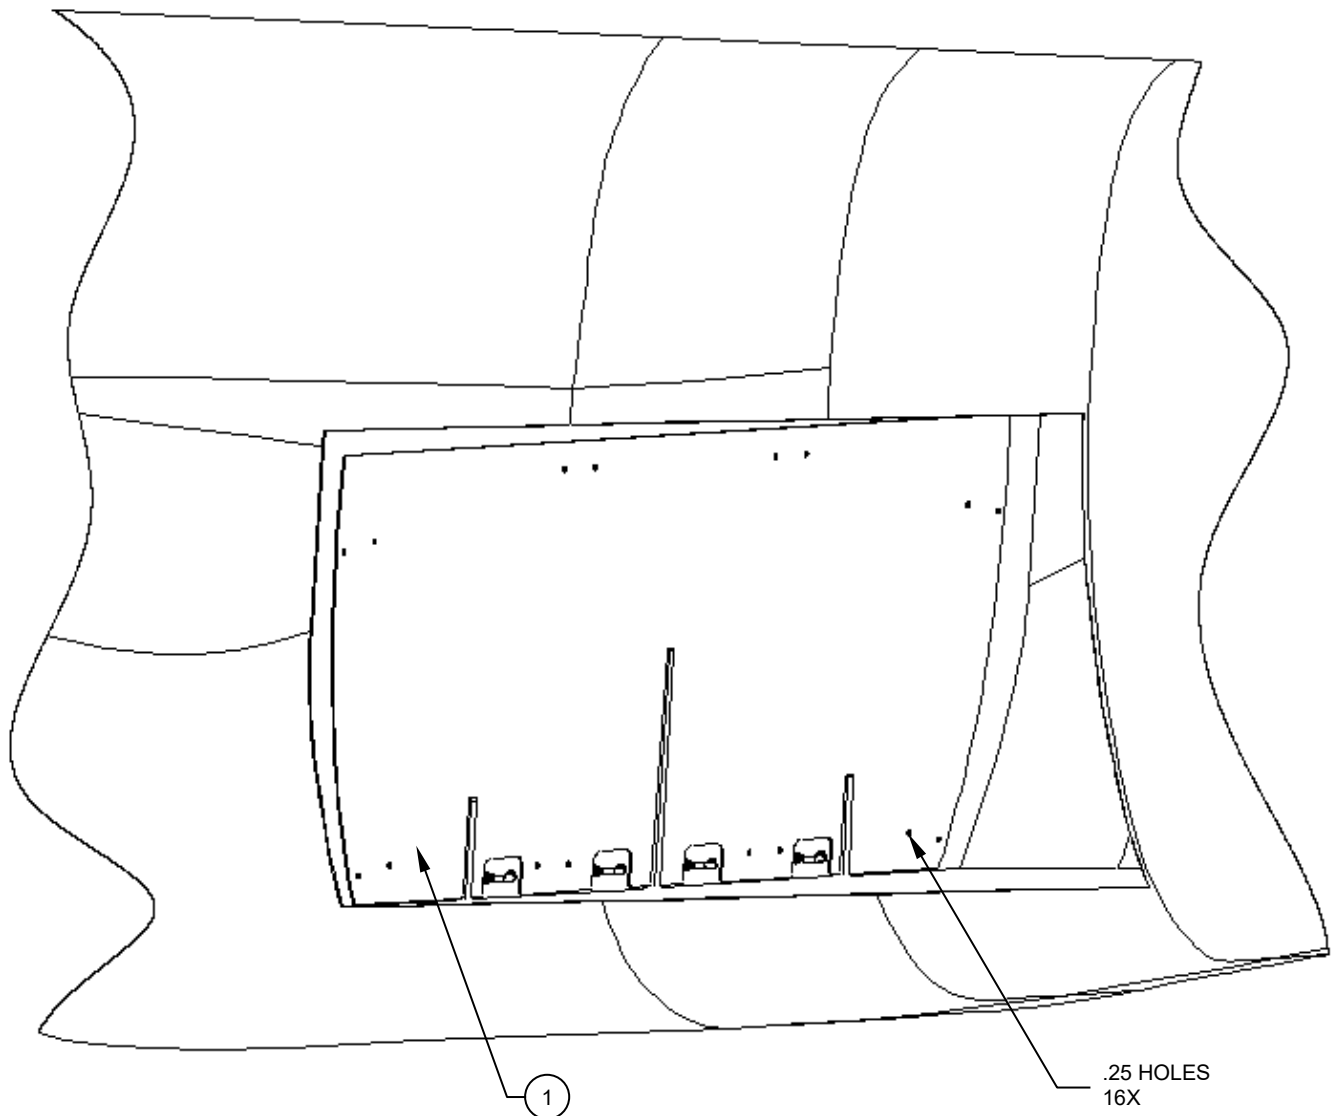

**Figure 1**
1. Gain access to the baggage compartment bulkhead. Reference Figure 1.
2. Pre-fit the Panel, Assy (Item 1) by lining up the slots & square cut outs with the footman loops & ribs mounted to the bulkhead panel. Reference Figures 1 & 2.